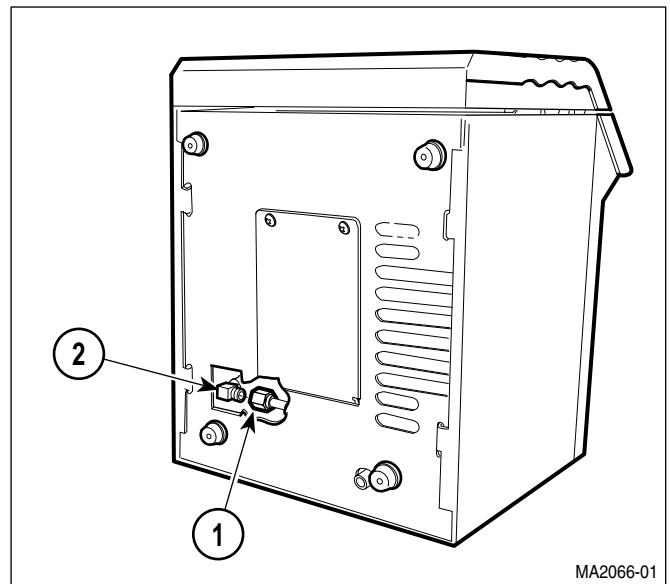

**Figure 4-23. Display PC Board
- (1) Remove top cover (Refer to para 4.2).
- (2) Remove six screws (1, Figure 4-23) and display PC board (2) from top cover (3).
- (3) If damaged, remove gasket (4) from top cover (3).